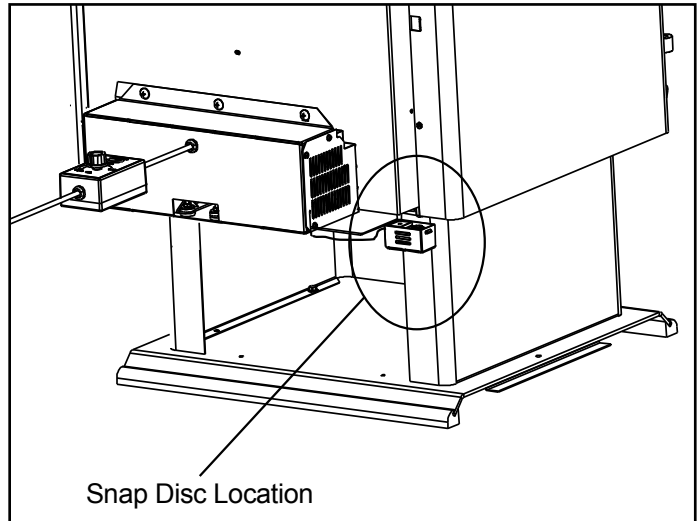

Figure 35.3
1. Locate the snap disc bracket assembly at the bottom left rear corner of the stove. **Figure 35.3.**